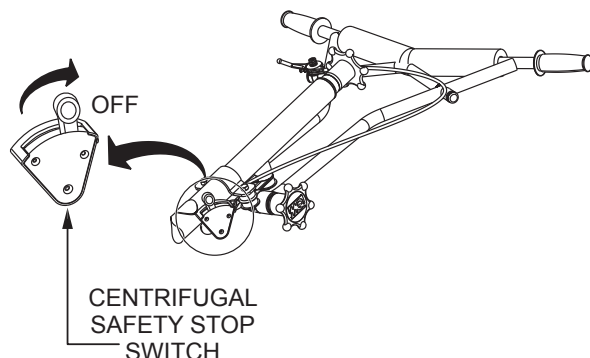

Figure 42. Centrifugal Safety Stop Switch (OFF)
3. Place the centrifugal safety stop switch (Figure 42) in the **OFF** position.